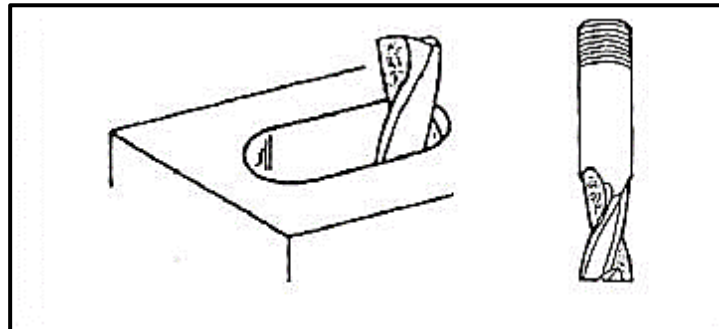

FIGURE 4.2
4.2 Identify the type of milling cutter shown in FIGURE 4.2.